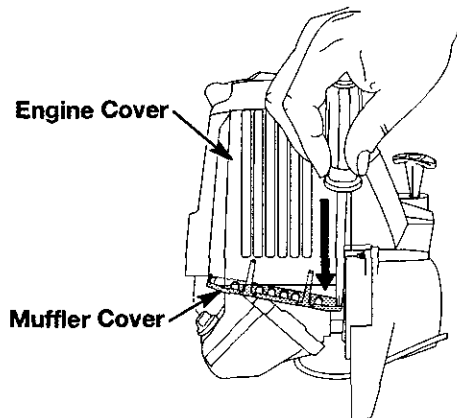

Fig. 38
1. Remove the muffler cover by pressing down on the corner with a flat blade screwdriver (Fig. 38). Slide the notches on the sides of the muffler cover over the tabs on the engine cover and remove
13. Replace the muffler cover. Slip the long tabs on the muffler cover into the engine cover. Slide the notches on the side of the muffler cover over the tabs on the engine cover and snap into place (Fig. 38).